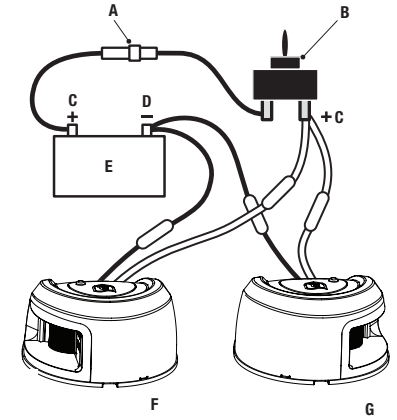

Figure 4
7. To attach cover, align the bottom edge of the cover to the back edge of the housing with the cover at a 45 degree angle (Figure 4).